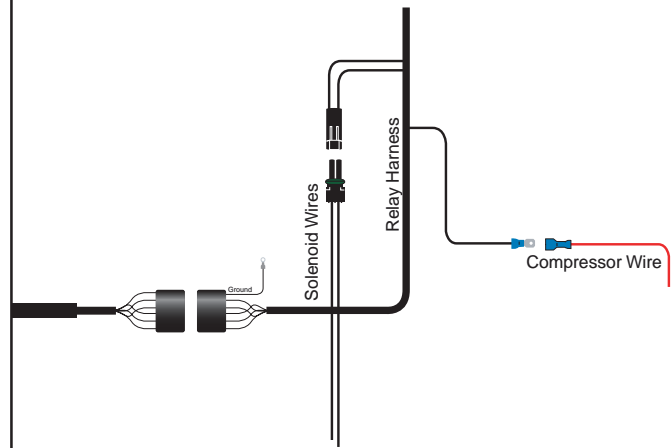

Figure 6
2. Connect single terminal connectors to connect the black compressor wire to the relay wire (Figure 6).
3. Connect the double terminal connector from the solenoid to the double terminal connector relay wires (Figure 6).